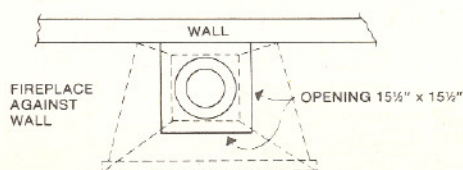
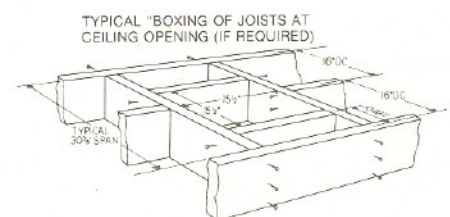

FIG. 4
FIG. 5A
- CUT CEILING OPENING** 15 1/2" x 15 1/2" square, for vertical chimney (Figs. 4 & 5). "Box" (Fig. 5A) around opening to provide nailing surface for Firestop Spacer. If fireplace is tight against a wall or in a corner, use dimensions below.